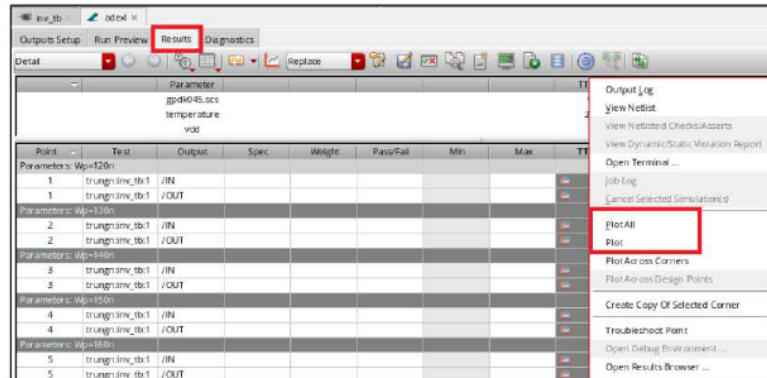

Figure 6. Plot waveform
- At **Results** tab → Choose **/IN** and **/OUT** signal → Right click → **Plot/Plot All** as **Figure 6**.